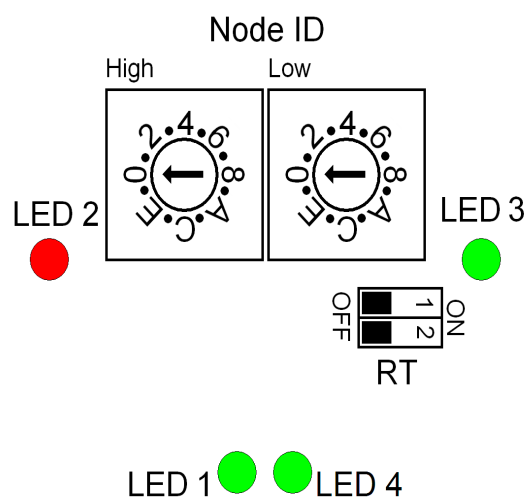

Figure 3: Dip-Switches and diagnostic LEDs
4.3 Dip-Switches and diagnostic LEDs (Figure 3)
4.3.1 Diagnostic LEDs (Figure 3)
4.3.2 Setting the address node: Node ID (Figure 3)
4.3.3 RT bus termination (Figure 3)